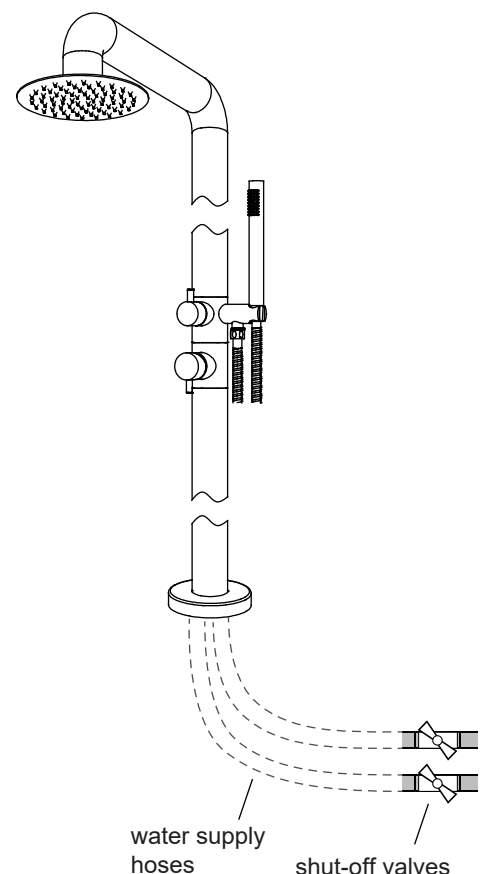

Fig 7
2. If the lowest temperature is between 32°F and 68°F at your location, you can leave your outdoor shower faucet outside. Turn the diverter handle upward and drain the water inside the faucet by removing the **Plug [27]** from the back of the faucet. Disconnect the **Shower Hose [26]** from the faucet and drain the water inside. Turn off the shut-off valves and disconnect the water supply hoses to drain the water inside. Install the **Shower Hose [26]** and **Plug [27]** back to the faucet. Reconnect the water supply hoses back to the shut-off valves. (Fig 7)